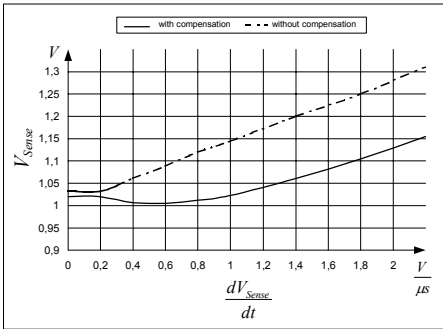

Figure 13 Overcurrent Shutdown
the overshoot dependency on di/dt of the rising primary current. That means the propagation delay time between exceeding the current sense threshold V_{csth} and the switch off of the external Power Switch is compensated over temperature within a wide range. Current Limiting is now possible in a very accurate way (see Figure 13).
E.g. $I_{peak} = 0.5A$ with $R_{Sense} = 2$. Without Propagation Delay Compensation the current sense threshold is set to a static voltage level $V_{csth}=1V$. A current ramp of $di/dt = 0.4A/\mu s$, that means $dV_{Sense}/dt = 0.8V/\mu s$, and a propagation delay time of i.e. $t_{Propagation Delay} = 180ns$ leads then to an I_{peak} overshoot of 12%. By means of propagation delay compensation the overshoot is only about 2% (see Figure 13).